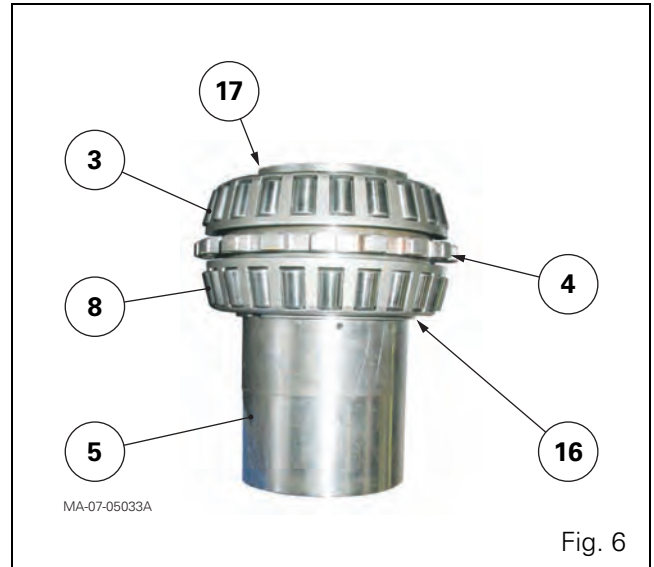

Fig. 6
29. Remove the rear bearing assembly (22) which consists of:
- the cassette seal (14);
- the O'ring (15);
- the shim(s) (23).
30. Remove the cup (21) from the rear PTO housing.
31. Remove the rear bearing assembly (5) which consists of:
- bearing cones (3) (8);
- castellated washer (4);
- circlips (16) (17).
32. Remove cup (19).
33. Remove the circlips (16) (17) from the splined sleeve (5) (Fig. 6).
34. Split from the splined sleeve (5):
- the bearing cones (3) (8);
- the castellated washer (4).